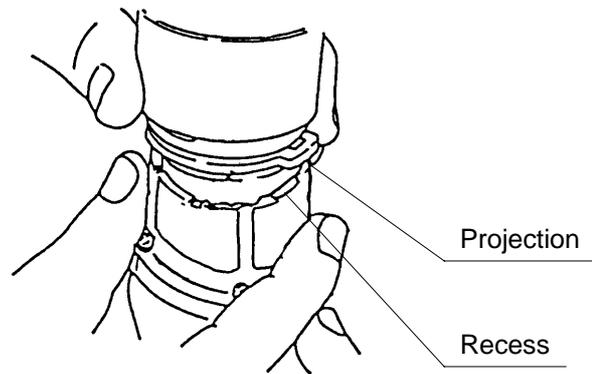

Fig. 16
(e) Install the assembly in (1) and the assembly from (d) together. (See Fig. 16)